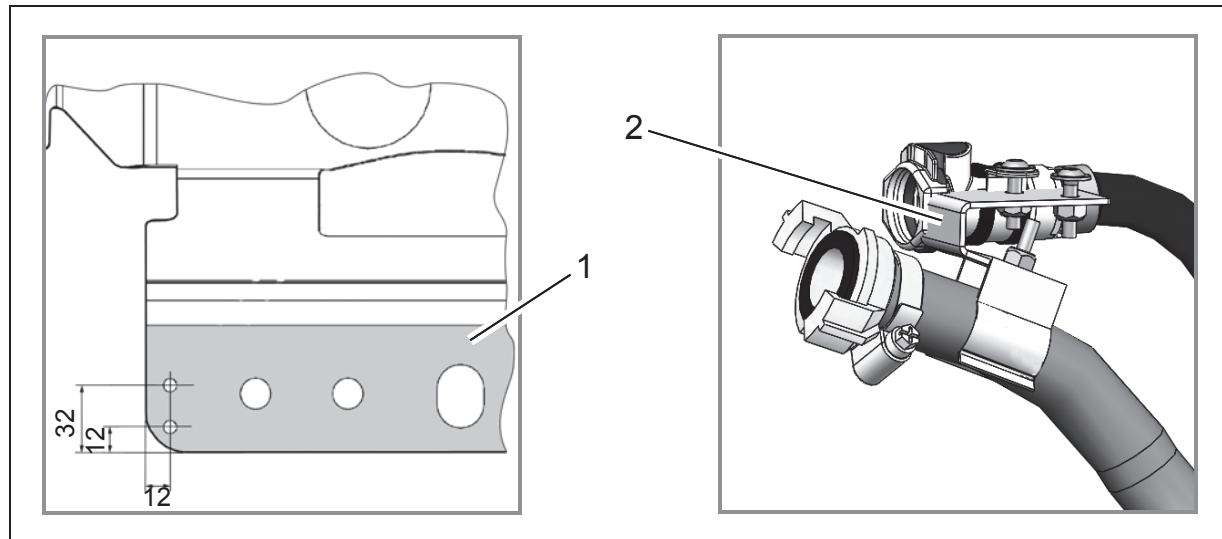

Fig.2
3. Drill two 6.5 mm holes in the connector plate for the front attachments (Fig. 2/1) (if not already provided). See drawing for dimensions. Touch up the holes with paint.
4. Assemble the hose attachment (Fig. 2/2) to the connector plate (Fig. 2/1).